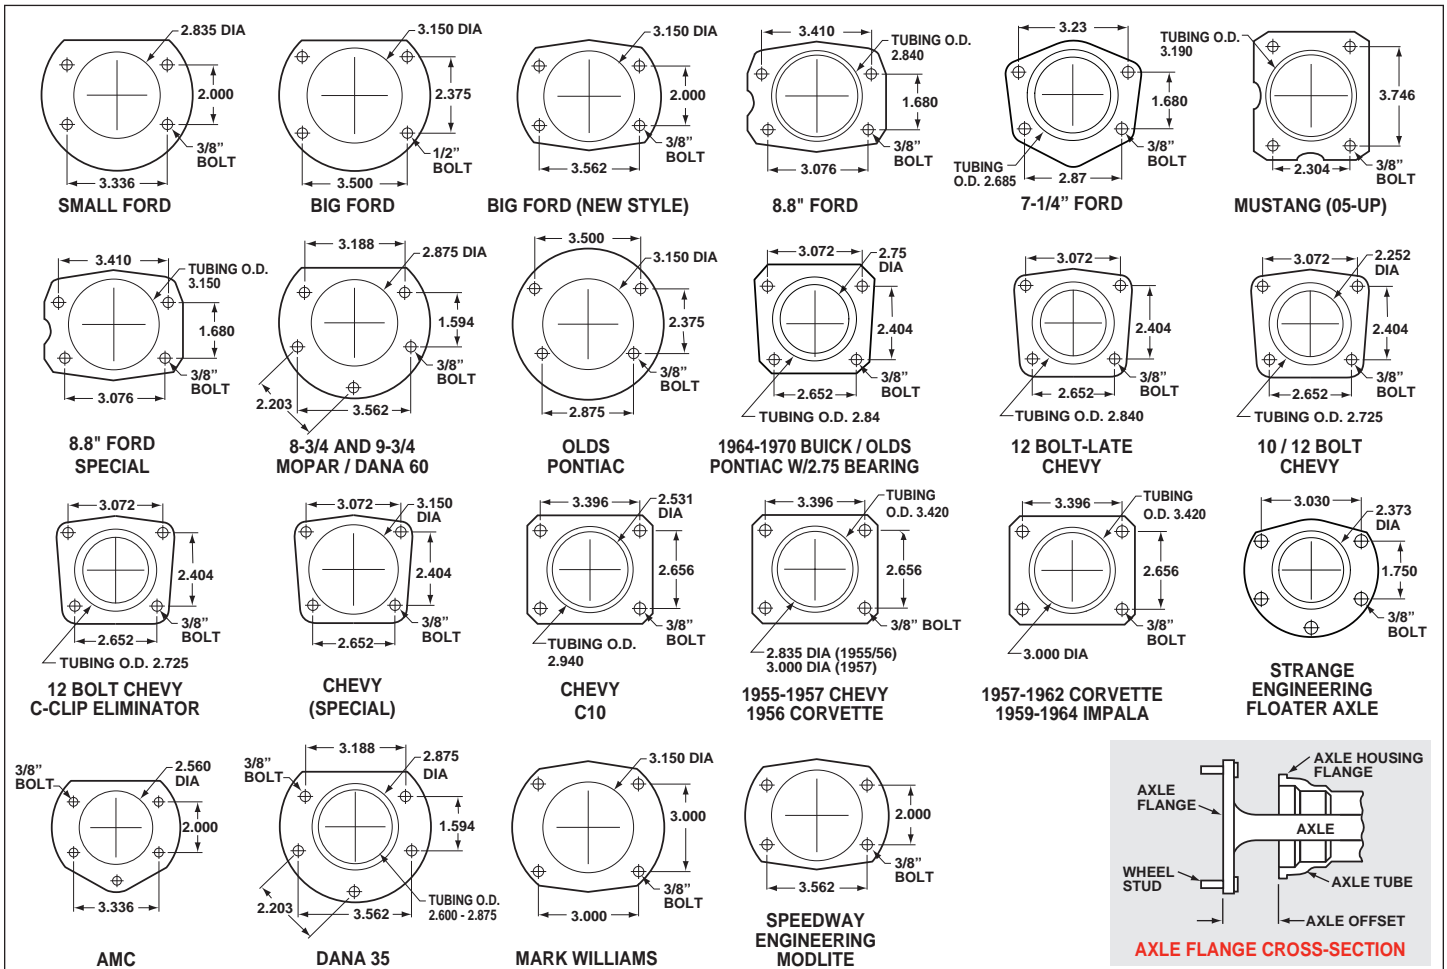

Figure 3. Rear Housing Flange Chart and Axle Flange / Offset Cross-Section
• Make sure this is the correct kit to fit the exact model rear end. This kit is designed to fit the Strange Engineering floating rear axle and hub, using the Strange Engineering floater axle mounting flange shown in Figure 3.